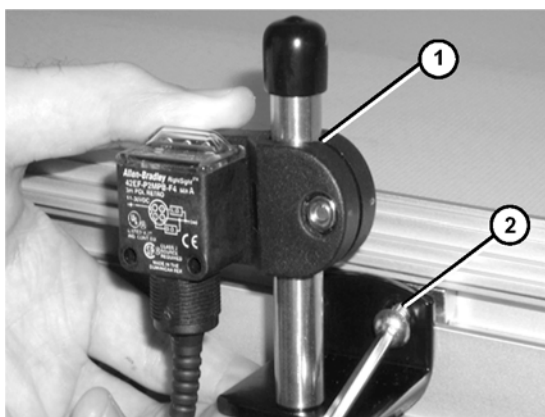

Figure 5
2. Attach photo eye assembly (**Figure 5, item 1**) to conveyor with screws (**Figure 5, item 2**).